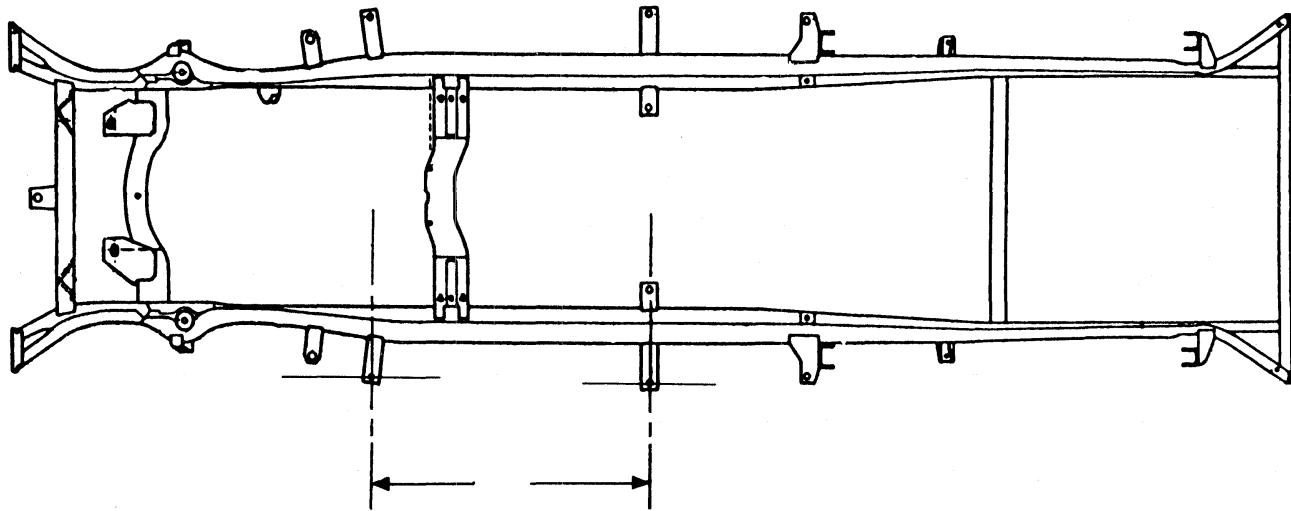

Fig. 2 Measure from the center line of the hole in the Front Spring Hanger Bracket to the center line of the hole in the Rear Spring Hanger Bracket.
- Operation #3** Weld Right Rear Spring Rear Hanger Bracket, Part Number 1734 478, to the right side of the frame and Left Rear Spring Rear Hanger Bracket, Part Number 1734 479, to the left side of the frame 54.47 inches from the Rear Spring Front Hanger Bracket. Measure as indicated in Fig. 2. Make a full weld all around both sides of the bracket.
- Operation #4** Weld Right Rear Spring Rear Hanger Bracket, Part Number 1829 758, to the right side of the frame and Left Rear Spring Rear Hanger Bracket, Part Number 1829 759, to the left side of the frame 55.90 inches from the Rear Spring Front Hanger Bracket. Measure as indicated in Fig. 2. Make a full weld all around both sides of the bracket.
- Operation #5** Weld Right Rear Spring Rear Hanger Bracket, Part Number 1734 482, to the right side of the frame and Left Rear Spring Rear Hanger Bracket, Part Number 1734 483, to the left side of the frame 57.39 inches from the Rear Spring Front Hanger Bracket. Measure as indicated in Fig. 2. Make a full weld all around on both sides of the bracket. In addition, make a gusset 1.38" long, .76" wide, and .187" thick from locally available material and weld in place as shown in Fig. 3.
- Operation #6** Weld Right Rear Spring Rear Hanger Bracket, Part Number 1829 768, to the right side of the frame and Left Rear Spring Rear Hanger Bracket, Part Number 1829 769, to the left side of the frame 58.77 inches from the Rear Spring Front Hanger Bracket. Measure as indicated in Fig. 2. Make a full weld on both sides of the bracket.